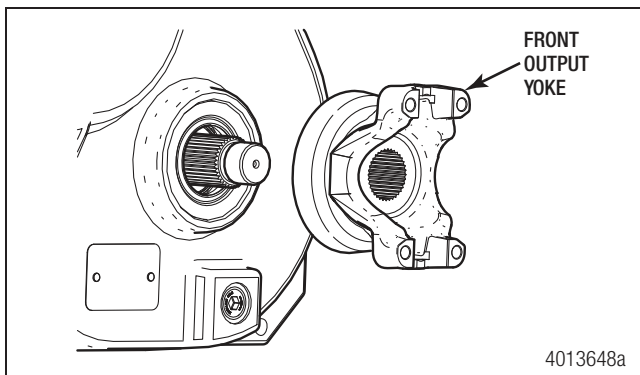

Figure 7.53
3. Install the yoke on the front output shaft. Figure 7.53.